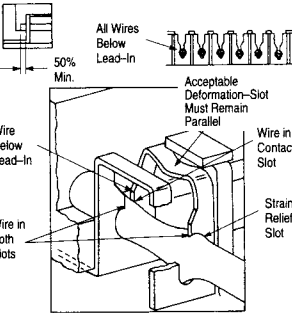

Figure 7
1. Make certain wire is inserted evenly so that the insulation is below the V-shaped lead-in on both the contact slot and the strain relief slot. See Figure 7.